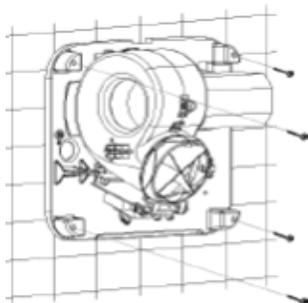

Fig. 7
3. Screw in the four supplied screws to firmly secure the base of the dryer to the wall (see figure 7).